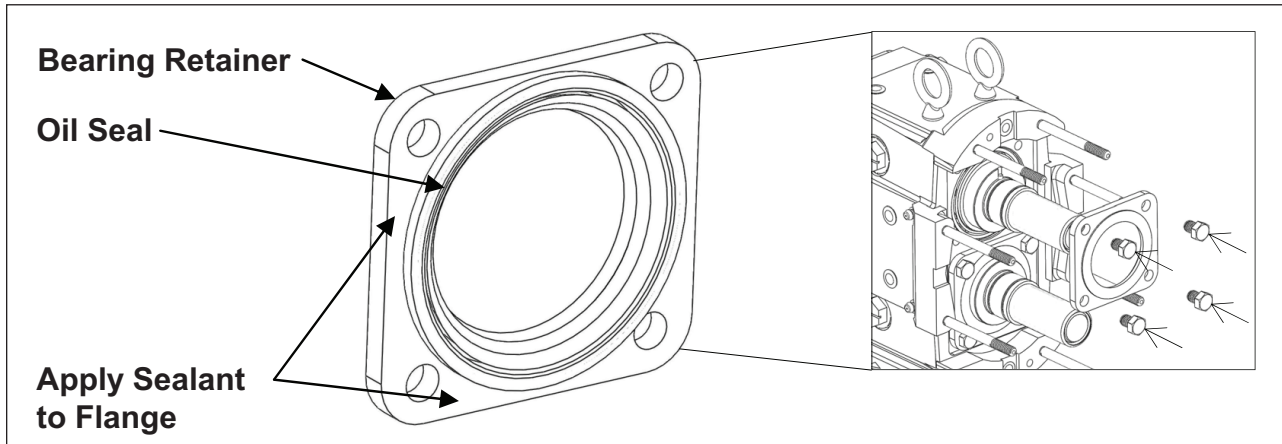

Figure 51. Bearing Retainer Installation
- Once the correct backface clearance is achieved, fill all bearings with grease through the fittings on the mounting pads until grease is noticeable around the bearing assemblies. The shafts should be rotated during this initial greasing to distribute the grease evenly. Apply a light film of lubricant to the inside and outside diameters of the oil seals and install them into the bearing retainers. Apply silicone sealant to the outside flanges on the bearing retainer (*Figure 51*). Once the silicone sealant is applied, install the bearing retainers onto the gear case.